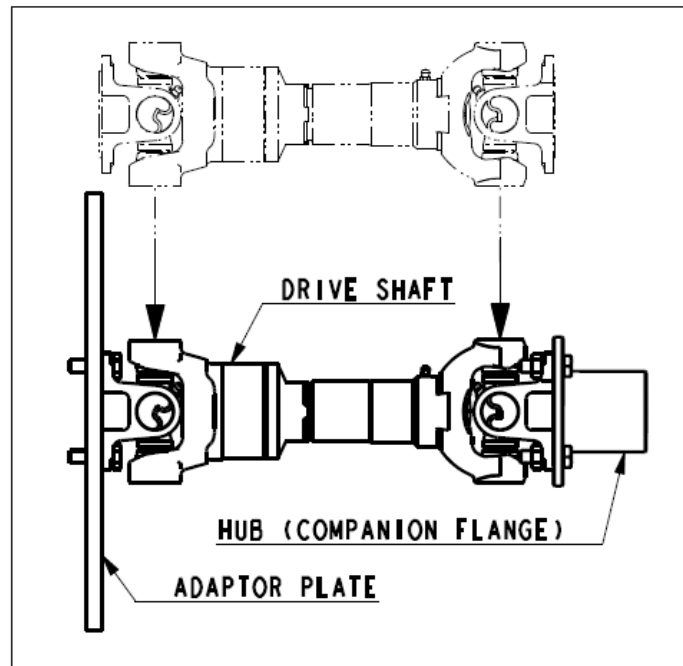

Figure 1
3. Make the driveshaft compressed position and place into position between mating flanges (Refer Figure 1). Bigger universal joint shaft assemblies are very heavy, so use proper lifting equipment during installation. Align pilot bore boss carefully into/onto companion flange mating diameter, then align bolt holes on driveshaft flange with holes on companion flange. Fix the flange to driveshaft with proper hardware. Now extend the